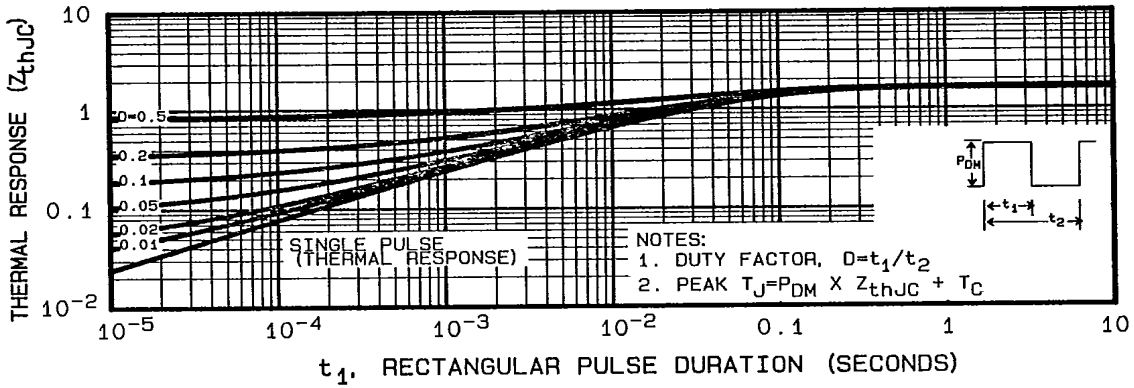

Fig. 5 — Maximum Effective Transient Thermal Impedance, Junction-to-Case Vs. Pulse Duration
- ① $T_J = 25^\circ\text{C}$ to 150°C
- ② Repetitive Rating :Pulse width limited by max. junction temperature. See Transient Thermal Impedance Curve (Fig.5).
- ③ @ $V_{ds} = -25V, T_J = 25^\circ\text{C}, L = 100\mu H, R_G = 25\Omega$.
- ④ Pulse Test : Pulse width $\leq 300\text{ms}$, Duty Cycle $\leq 2\%$.